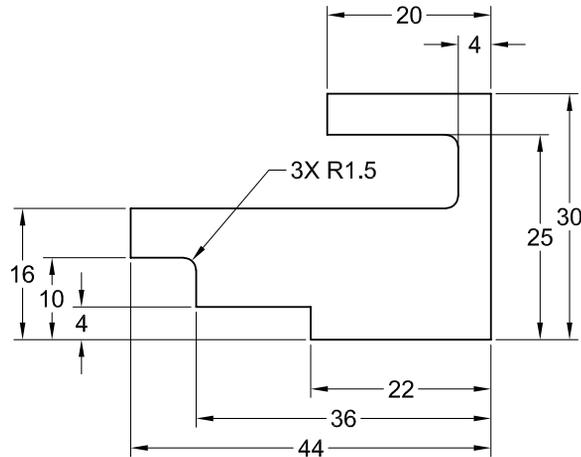
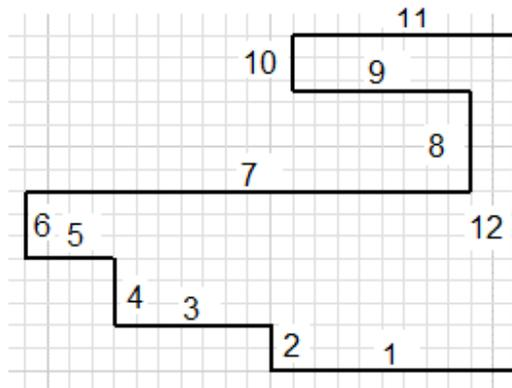

Figure 3-53 Sketch for Tutorial 2
Figure 3-54 Lines numbered in the sketch
In this tutorial, you will draw the sketch shown in Figure 3-53. This sketch is the same as the one drawn in Tutorial 4 of Chapter 2. After drawing it, you will apply the required constraints and dimensions to fully constrain it. **(Expected time: 30 min)**
- Invoke the Sketching environment and draw the initial sketch by using the **Line** tool, refer to Figure 3-54.
1. Draw the initial sketch, as shown in Figure 3-54, using the **Line** tool. The lines in the sketch are numbered for your reference.
The dimensions shown in Figure 3-53 are linear dimensions. As the sketch is for a revolved feature, you need to add linear diameter dimensions to it. It is recommended that you first apply all the dimensions and then add fillets to the sketch. This is because the size of a sketch generally changes after dimensioning. Before adding dimensions to a revolved section, it is important to determine which line segment of the sketch will act as the axis for revolving the sketch. If you refer to Figure 3-54, you will notice that line 1 acts as the axis to revolve the sketch for the model. Therefore, while applying linear diameter dimensions, line 1 should be selected first.
Figure 3-53 shows the value to be specified as **4** because the linear diameter dimensions are placed twice.